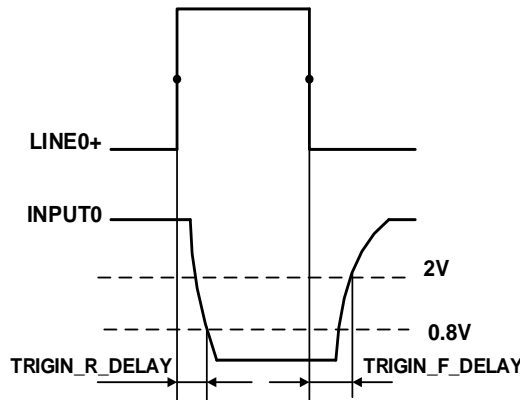

Figure 7-7 Parameter of opto-isolated input circuit
- Rising edge delay:  $<50\mu\text{s}$  ( $0^{\circ}\text{C}\sim 45^{\circ}\text{C}$ ), parameter description as shown in Figure 7-7
- Falling edge delay:  $<50\mu\text{s}$  ( $0^{\circ}\text{C}\sim 45^{\circ}\text{C}$ ), parameter description as shown in Figure 7-7